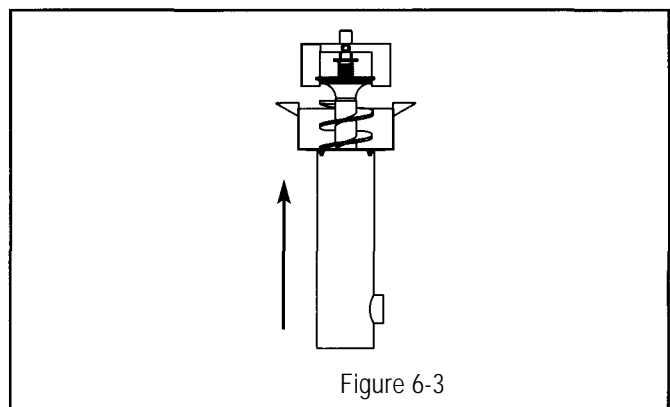

Figure 6-3
5. Remove auger from screen by lifting it up (see figure 6-3).